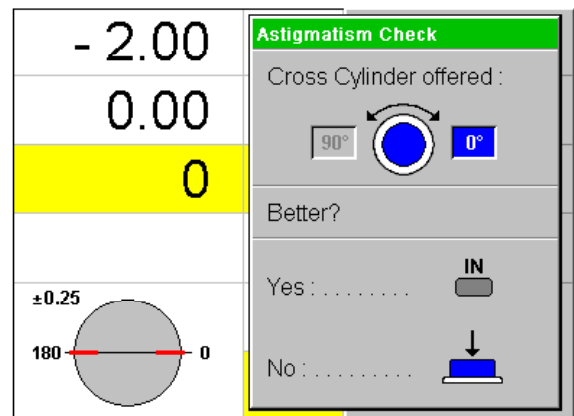

Figure IS-5 Astigmatism Check
1. Press X-CYL and the Astigmatism Check screen will appear. Refer to Figure IS-5.